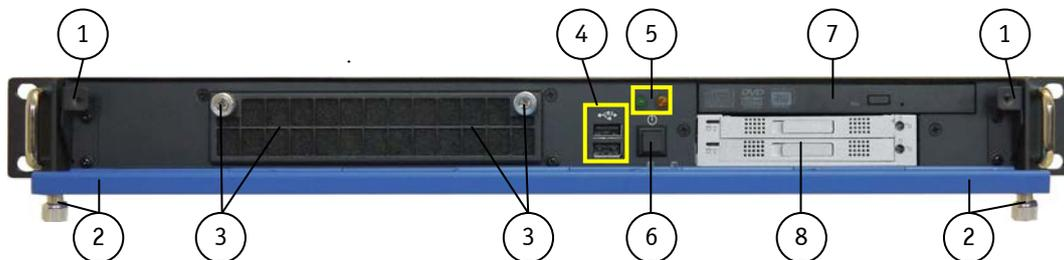

Fig. 8: Front side (rackmount version) with opened front access door
The filter mat holder (Fig. 8, pos. 3) is located behind the air grilles of the front access door. The filter mat, which is inserted into the filter mat holder, protects your system against dust and dirt. It can be changed while the system is powered up (refer to the section 10.3 "Cleaning the Filter Mat").
Depending on the configuration ordered, your KISS 1U Short V2 can be equipped with up to two externally accessible drives: **D1** (1x 5.25" Slim-line drive bay) and **D2** (1x 3.5" drive bay) (refer to Fig. 8, pos. 7 and pos. 8).